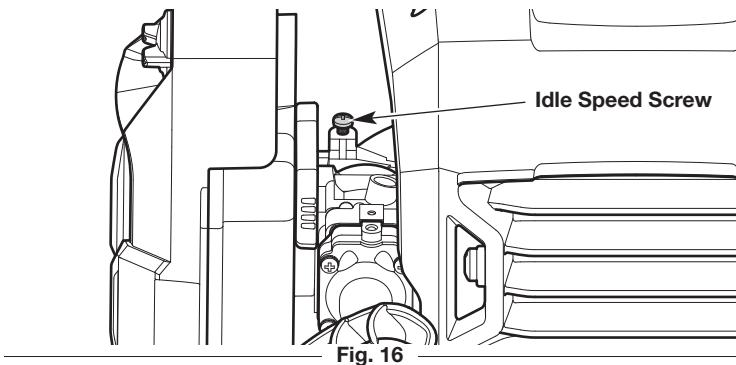

Fig. 16
- If the engine stops, increase the idle speed. Use a small Phillips screwdriver to turn the idle speed screw clockwise, 1/8 of a turn at a time, until the engine idles smoothly (Fig. 16).